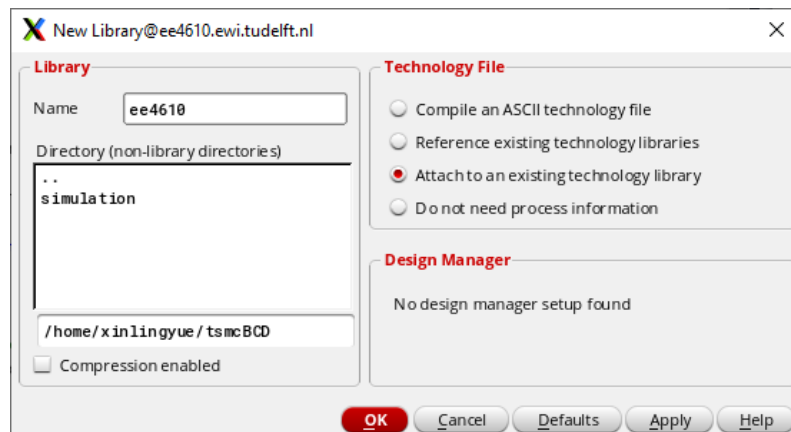

Figure 2: Create your own library
- Create your own library by clicking *File > New > Library* in Fig. 1. For example, here "ee4610" is the name of the new library in Fig. 2.